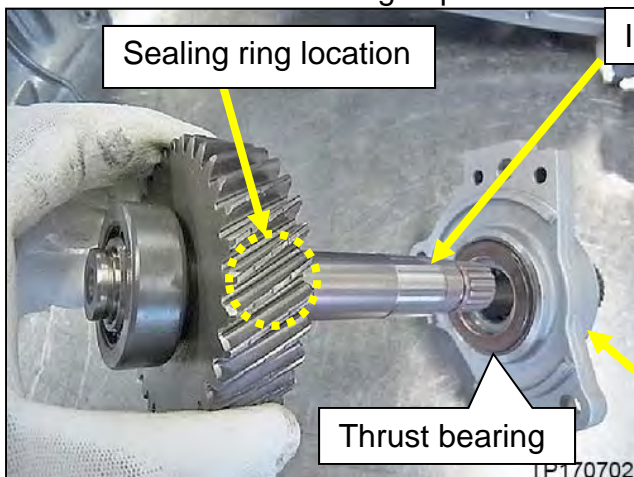
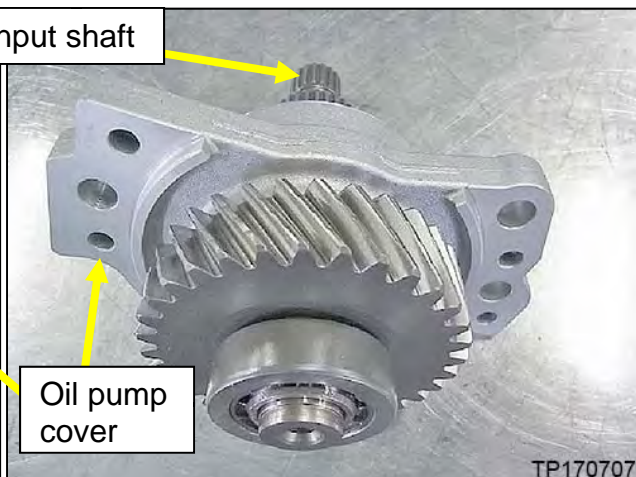

Figure 126
Figure 127
h. Insert the input shaft into the oil pump cover (Figure 126 and Figure 127).
- The sealing ring is hidden behind the input gear in Figure 126.